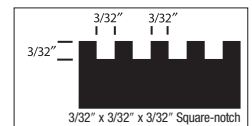

Figure 2
- 3/32" square-notch (2 mm Solid Parquet) (Figure 2)